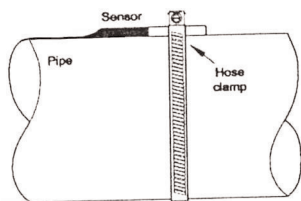

Figure 1. Installing the Series S Surface Mount Temperature Sensor
3. Position the sensor flat against the pipe and fasten with a hose clamp (not provided) or nylon ties. See Figure 1.